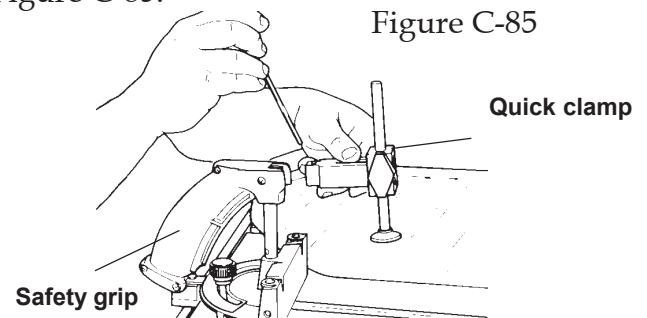

Figure C-85
5. The miter gauge has two slots, so that you can attach a miter gauge extension. As shown in Figure C-85.